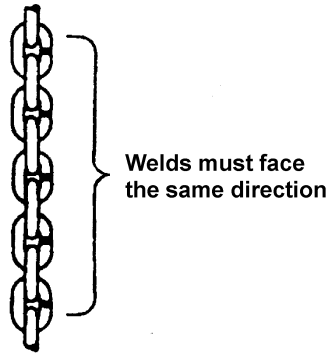

Figure 4
5. Check that the chain is not twisted at the bottom hook. All welds should face the same direction (Figure 4).